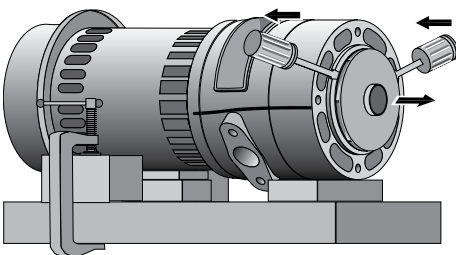

Figure 20
- Step 9. The impellers are keyed to the shaft and do not unscrew. Insert two screw drivers on opposite sides under the exposed impeller and pry the impeller off (Figure 20) to remove it.